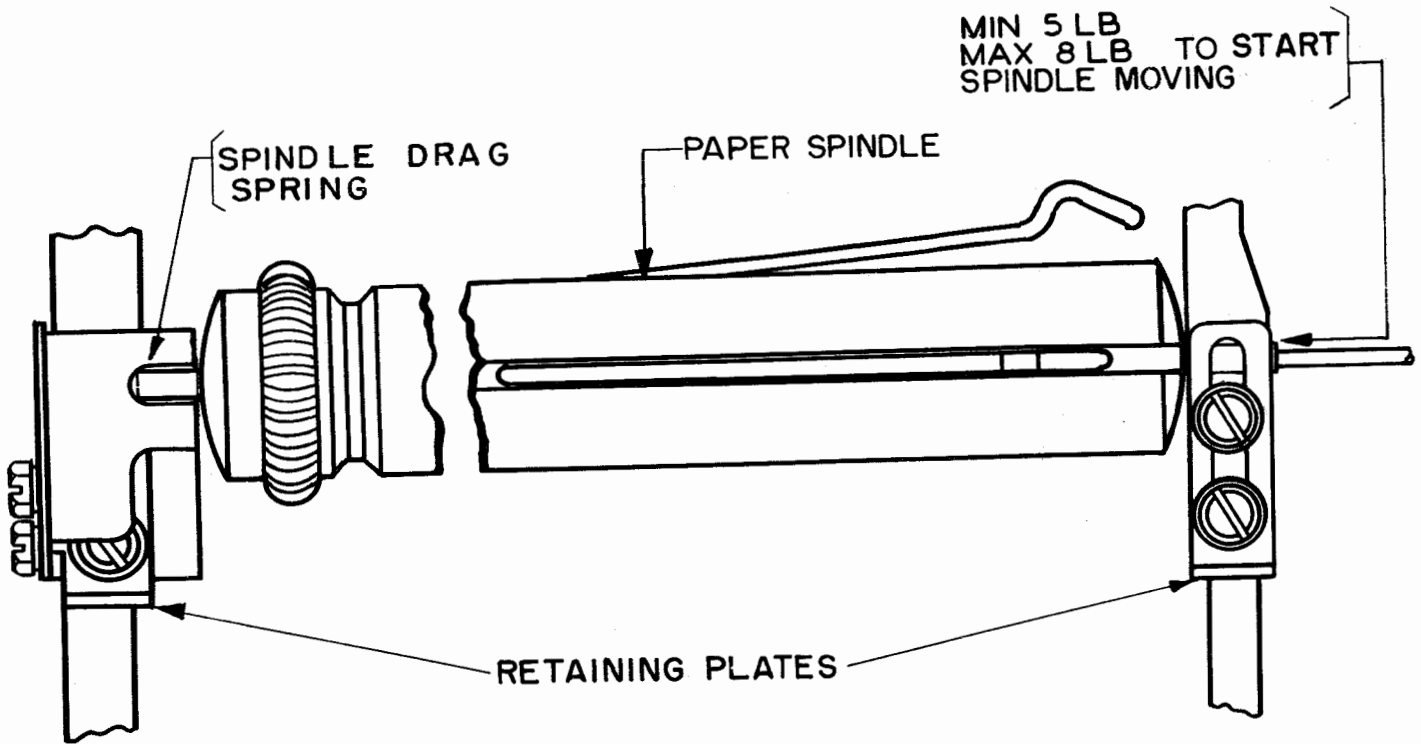

Figure 51
2.119 Paper-spindle Drag-spring should have a tension of minimum 5 pounds, maximum 8 pounds, viewed from the rear of the typing unit when an empty paper spindle is locked in its slots with the retaining plates and both ends of the spindle shaft are resting in the bottom of their slots. See Figure 51.